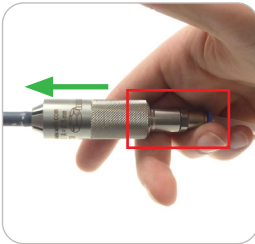

Figure 8
- Hold the connector at the lower part (Pos. 2) and on the hose with one hand (see area outlined in red) and press against the test piece (green arrow, Figure 8). Pull the sliding sleeve (Pos. 1) back.